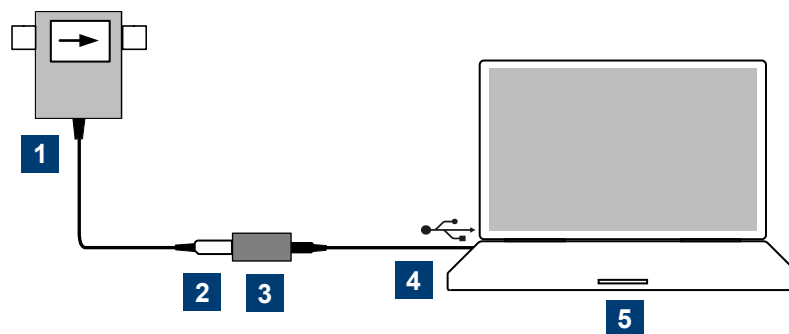

Figure 3-2: Connecting to computer
2. Connect the host interface connector of the R&S NRT-Zxx directional power sensor, (2) in Figure 3-2, to the sensor interface of the R&S NRT-Z5 USB interface adapter.